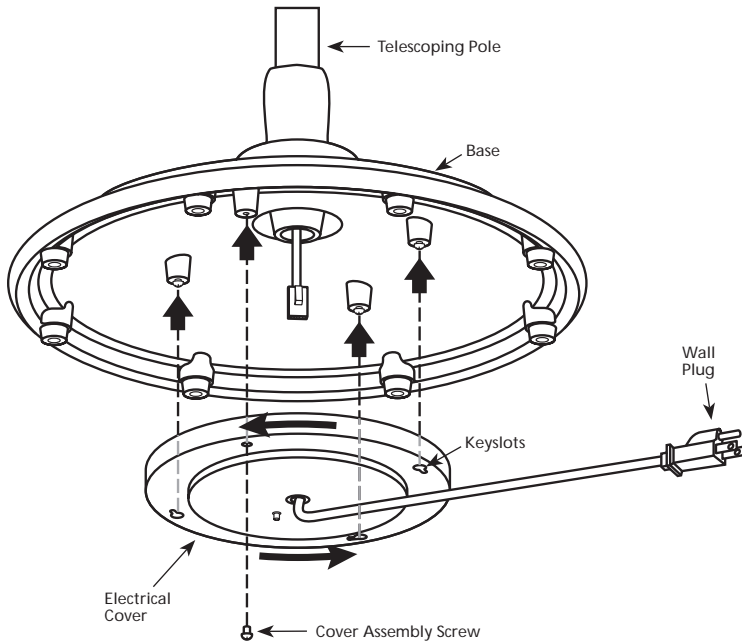

FIGURE 2
9. Remove one of the four Cover Assembly Screws from the bottom of the Cast Iron Base and loosen the three remaining Cover Assembly Screws. See Figure 2.
11. Place the Electrical Cover against the bottom of the Cast Iron Base and align the Keyslots in the Electrical Cover with the three loosened Cover Assembly Screws. Rotate the Electrical Cover counterclockwise. See Figure 2.